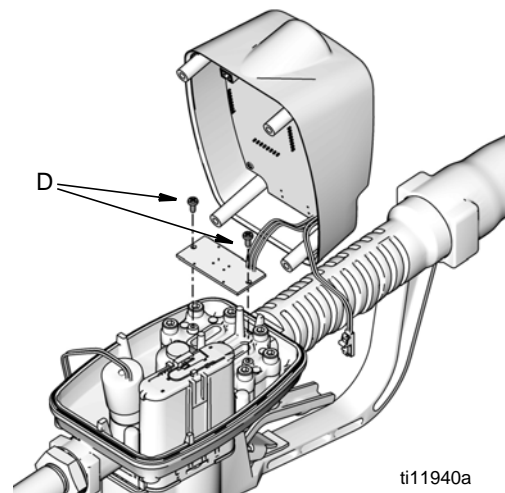

FIG. 5
5. Remove two screws (D) holding reed switch board to the cover plate (FIG. 5). Keep these parts for reassembly. Remove cover assembly.